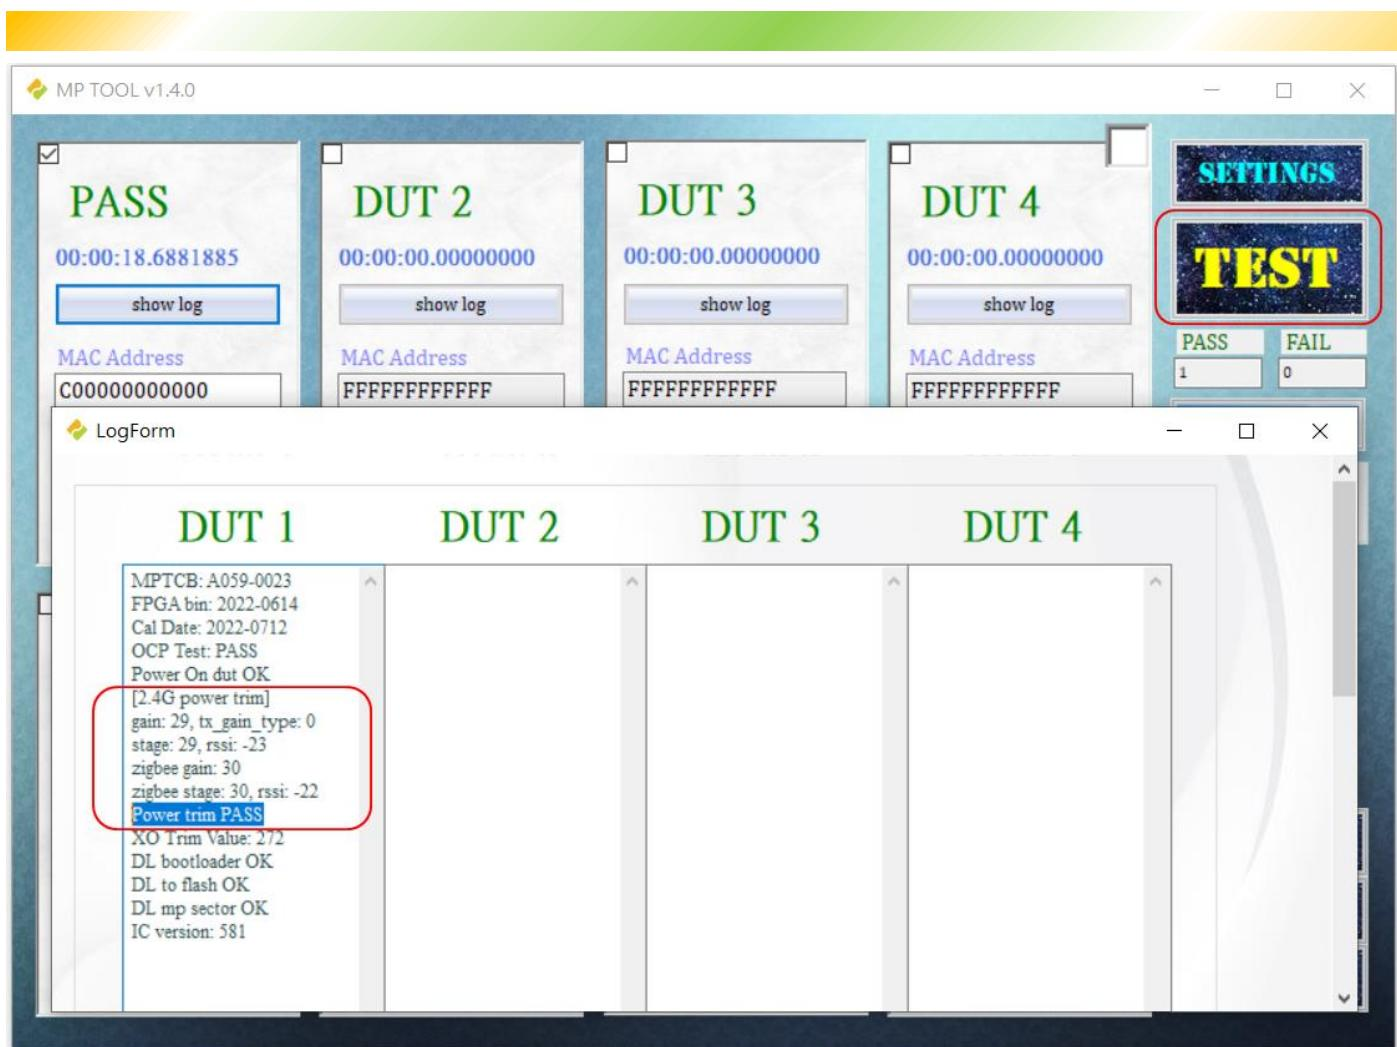

Figure 25. Power Trim Setting-4
8. Click “TEST” button to start power trim as shown in Figure 25.